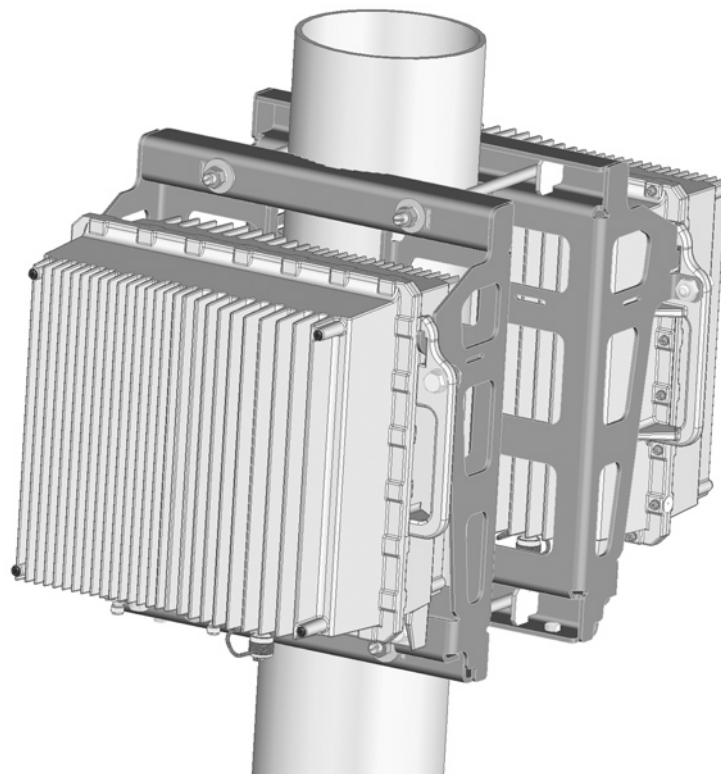

**Figure 2-8: Mounting Two Carriages on the Pole**
- 3 Thread the 4 M10x265 threaded rods through one carriage and tighten using the supplied washers, spring washers and nuts. Lean the carriage vertically on the pole and thread the rods through the second carriage (Figure 2-8).